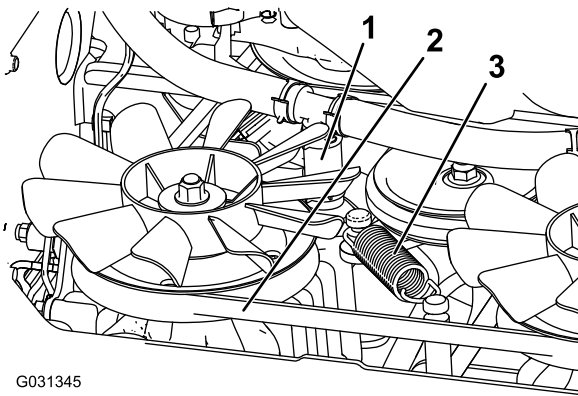

**Figure 67**
3. Locate the drain plugs in the bottom of the transmission and place a drain pan under the plug (Figure 67).